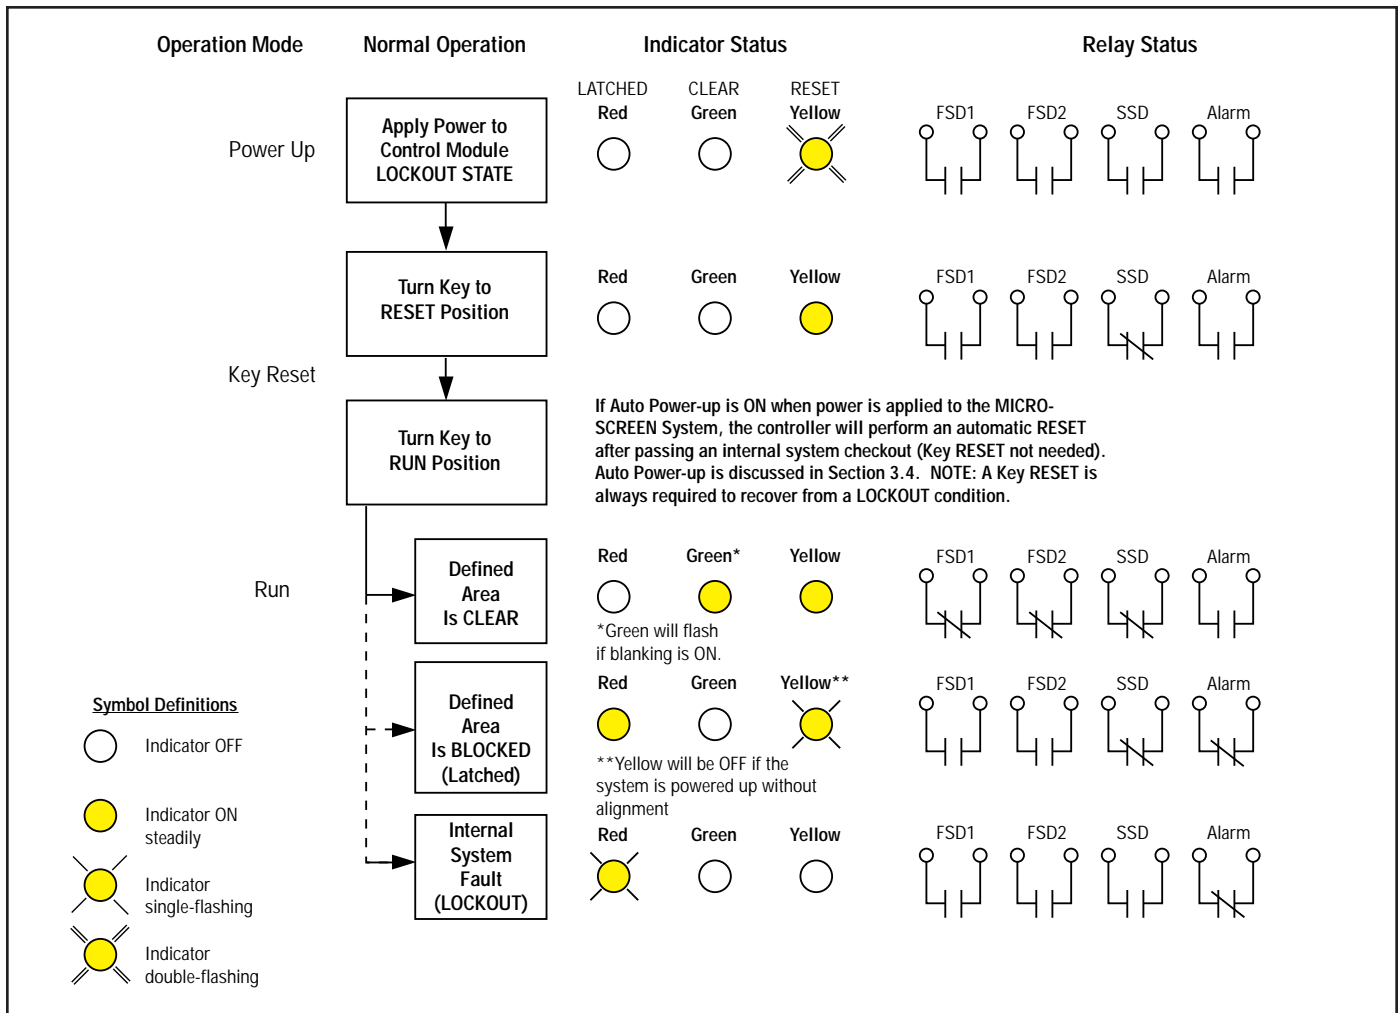

Figure 5. Operating status conditions
- Routinely upon power-up of the MICRO-SCREEN System (unless Auto Power-up is ON; see Figure 5, page 10); or
- If power to the MICRO-SCREEN System is interrupted (unless Auto Power-up is ON; see Figure 5).
A lockout condition resulting from an internal system fault is indicated by a flashing red status indicator on the control module and the receiver unit. The green and yellow status indicators will be OFF. See Figure 5, page 11.